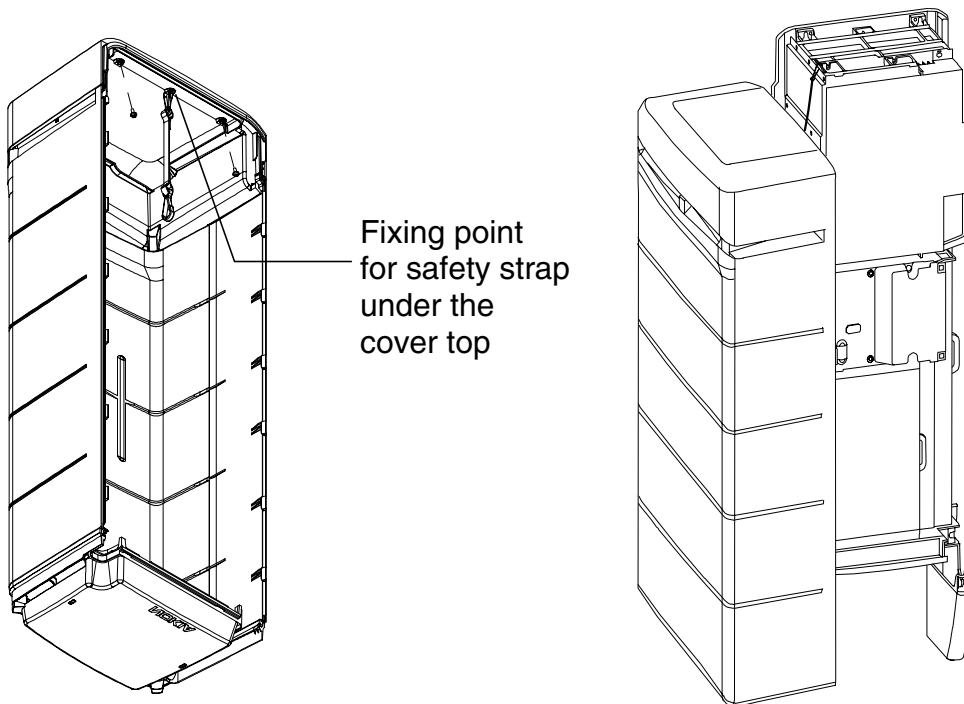

Figure 14. Nokia MetroSite EDGE BTS cover and safety strap
5. Refit the cabinet cover as follows (see also Figure 14):